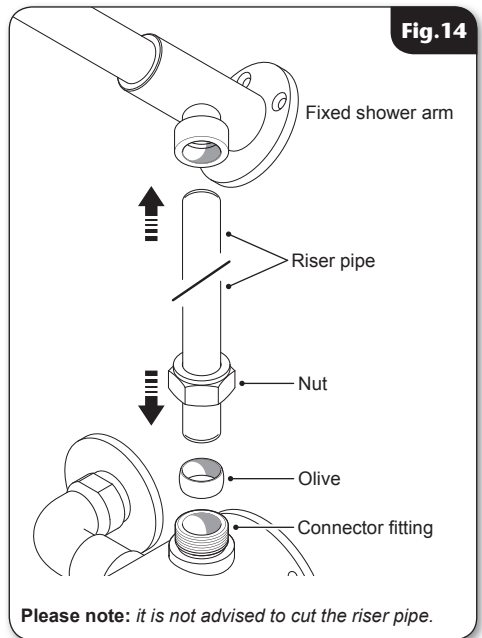

Fig.14
- Push the pipe sections into the connector fitting and then into the shower arm (fig.14).
- Slide the retaining nut and olive onto the bottom section of pipework (fig.14) and insert the assembly into the mixer outlet.